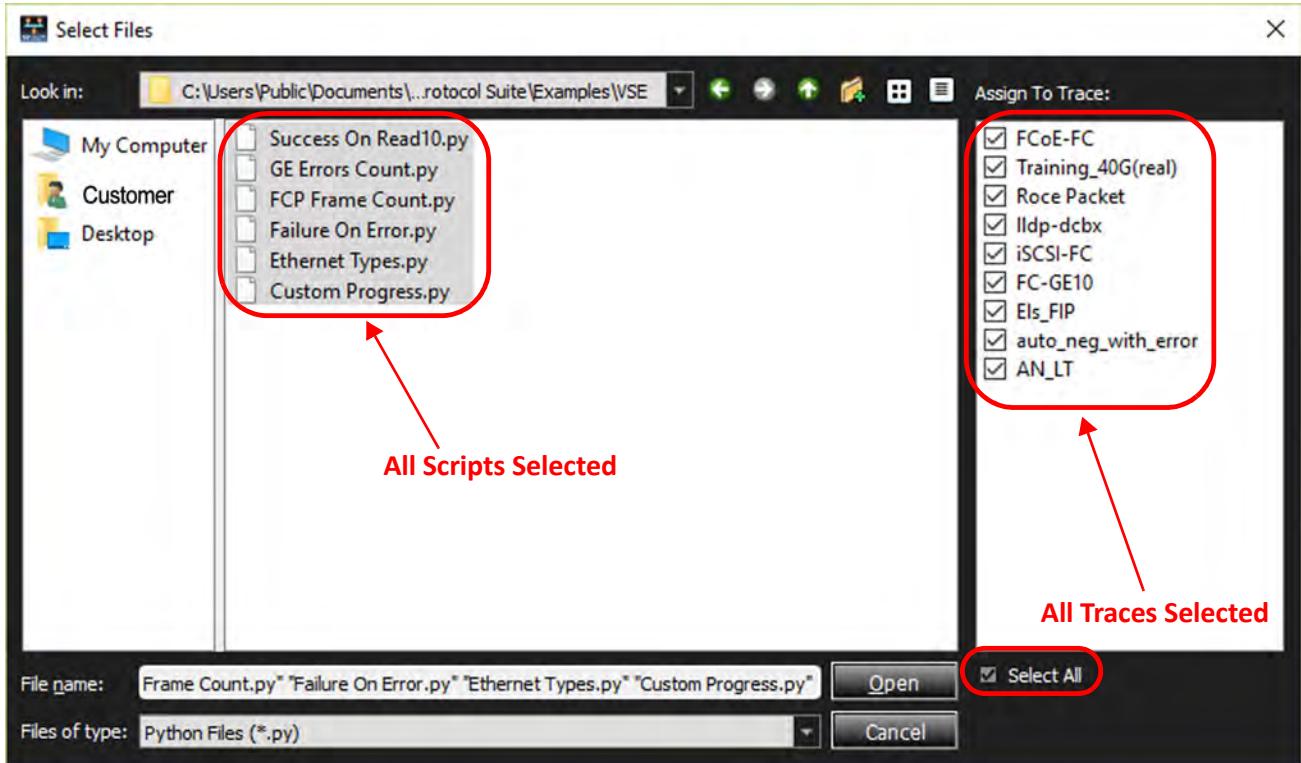

Figure 5.120: All Scripts Selected and All Traces Selected
1. Select a specific Script to be run on a specific Trace or check the box for **Select All**. If you choose Select All, the selected scripts will be run on all of the assigned traces. See Figure 5.120.